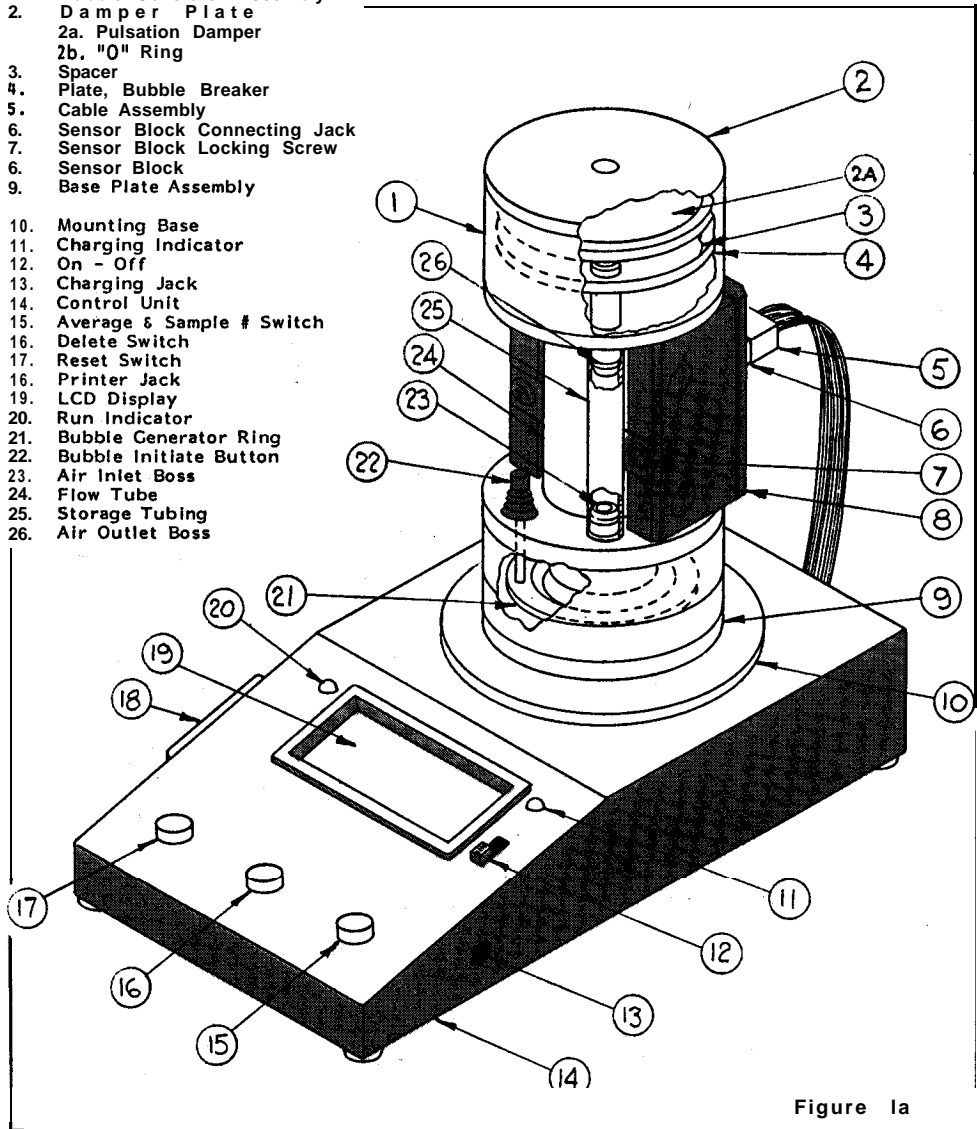

Figure 1a
Section 2 General Description (See fig. 1a)
2. The Control Unit (base) (See fig. 1a)